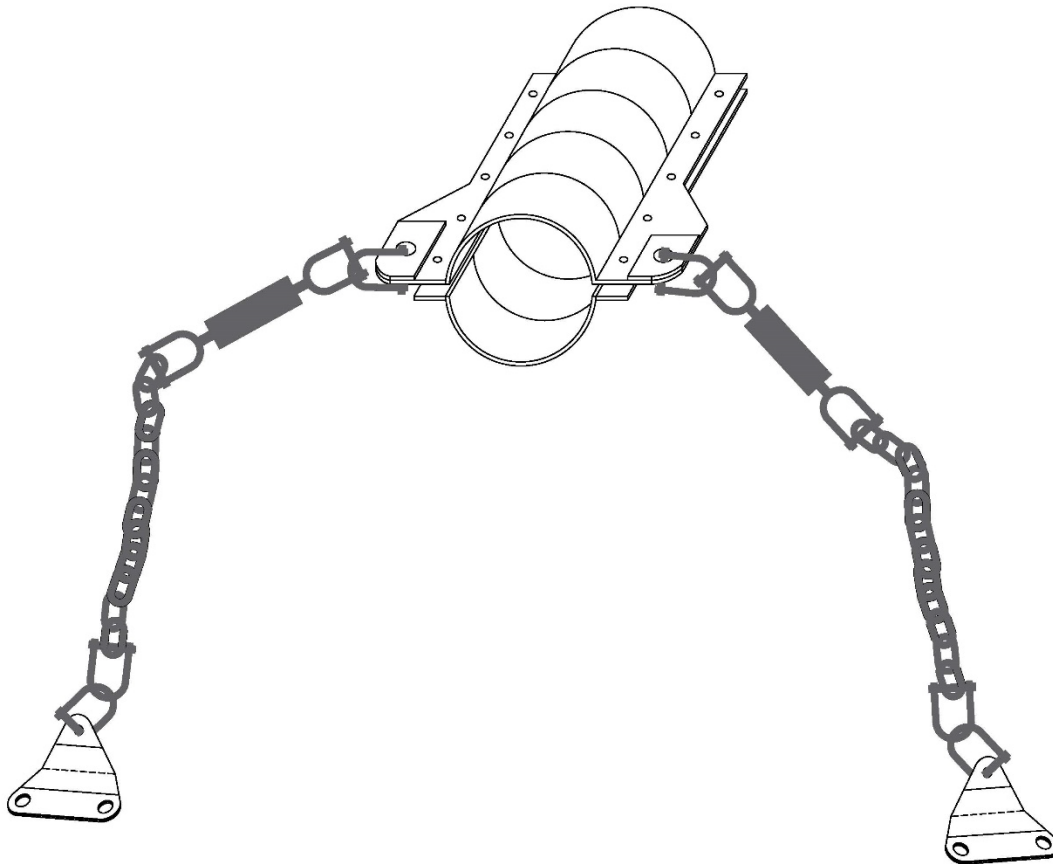

Figure 1: Assembled Hold Back Hardware
This solicitation is to purchase custom fabricated and prefabricated hardware and fasteners that will be used to secure an 18-inch offshore HDPE pipeline to the sea floor. Hardware to be supplied by the vendor includes: (A) Saddle clamp, (B) Anchor plates, (C) Shackles, (D) Turnbuckles, (E) Chain and (F) Various hardware fasteners. Vendor is to supply hold back hardware as defined in the Hardware Design Specifications section of this solicitation. Assembly and installation of pipe hold back hardware will be performed by "others". Rendering of assembled pipe hold back hardware is represented in Figure 1 below: